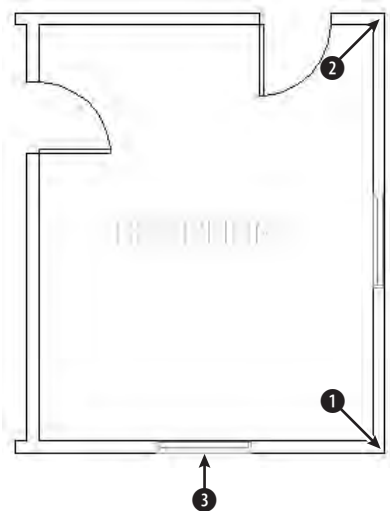

Figure 14-4: A bedroom plan
2. Save the file as *ab14-01.dwg* in your AutoCAD Bible folder. This is a plan of a bedroom, as shown in Figure 14-4. ORTHO and OSNAP should be on. Set running object snaps for endpoint, midpoint, and intersection. The current layer should be set to Dim.
4.  Choose Linear Dimension from the Dimension toolbar. At the Specify first extension line origin or <select object>: prompt, pick ❶ in Figure 14-4. At the Specify second extension line origin: prompt,
- pick ❷. At the Specify dimension line location or [Mtext/Text/Angle/Horizontal/Vertical/Rotated]: **prompt**, move the cursor to the right until you have sufficient space for the dimension text and click.
5. Repeat the DIMLINEAR command. At the Specify first extension line origin or <select object>: **prompt**, press Enter. At the Select object to dimension: **prompt**, pick ❸ (the window) in Figure 14-4. At the Specify dimension line location or [Mtext/Text/Angle/Horizontal/Vertical/Rotated]: **prompt**, move the cursor down until you have sufficient space for the dimension text and click.